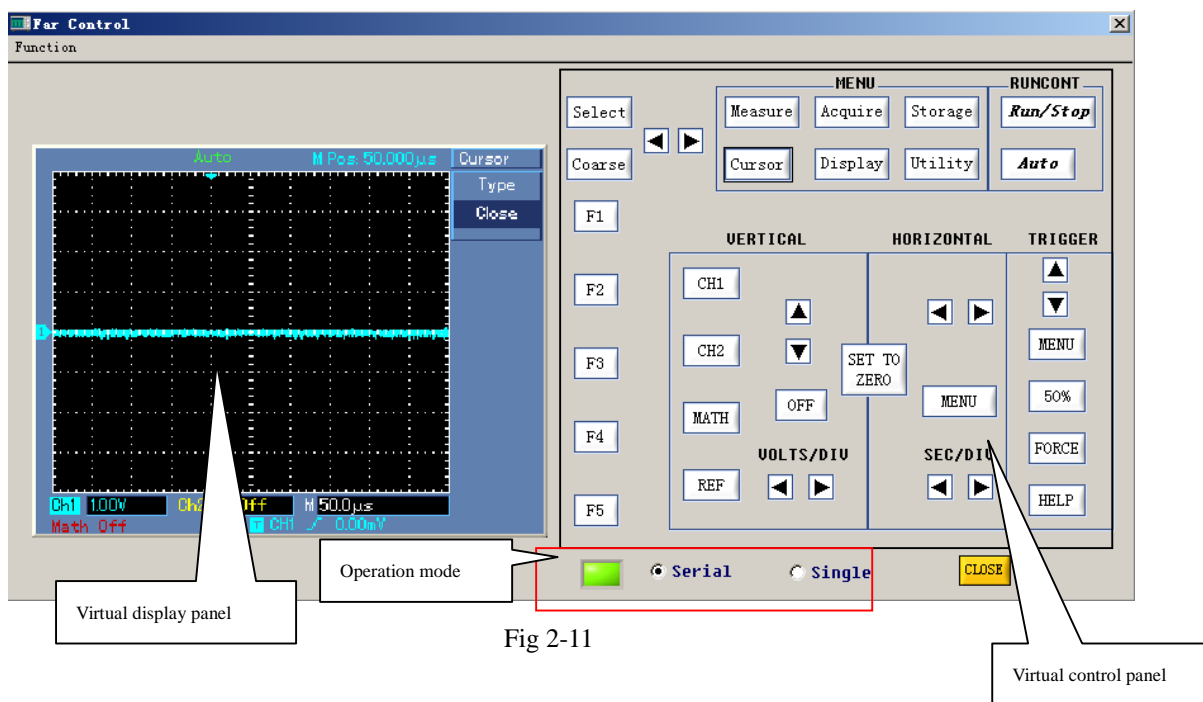

Fig 2-11
To select USB or LAN to control communication, click the “transmission interface” button on the virtual control panel of the communication and control software to enter the “transmission interface” operation screen. Here, you can enable remote interface transmission as shown in Fig 2-11. The virtual display panel shows the waveform and interface of the oscilloscope. The virtual control panel is a virtual operation panel of your digital storage oscilloscope. You can control and operate the unit from here.
**Save :** Select “Single” as in Fig 2-11 to save the waveform and screen on the virtual display panel in \*.bmp format on the computer hard disk or mobile USB device.